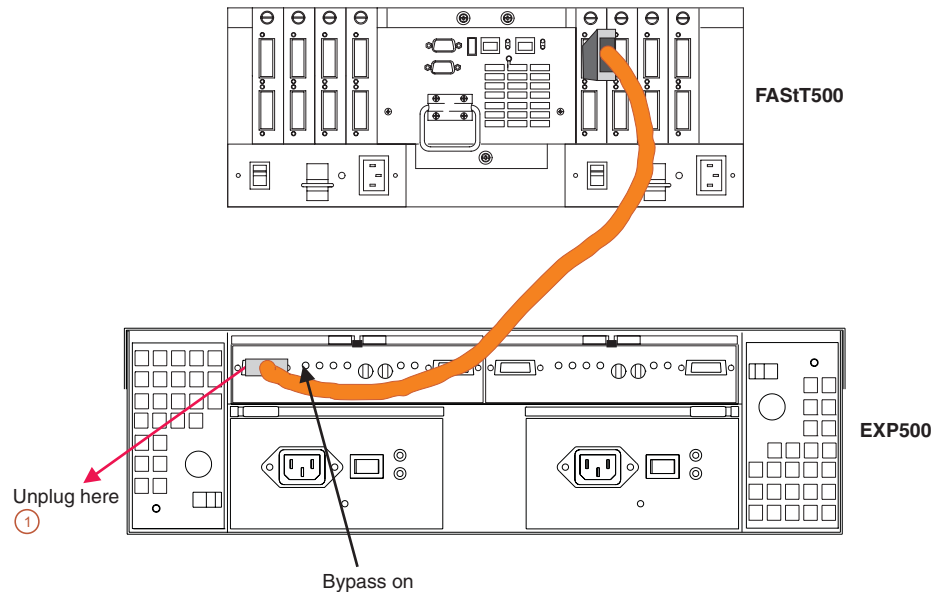

Figure 157. Disconnect cable from loop element
1. Disconnect the cable from the loop element that has the bypass indicator light on. See Figure 157.